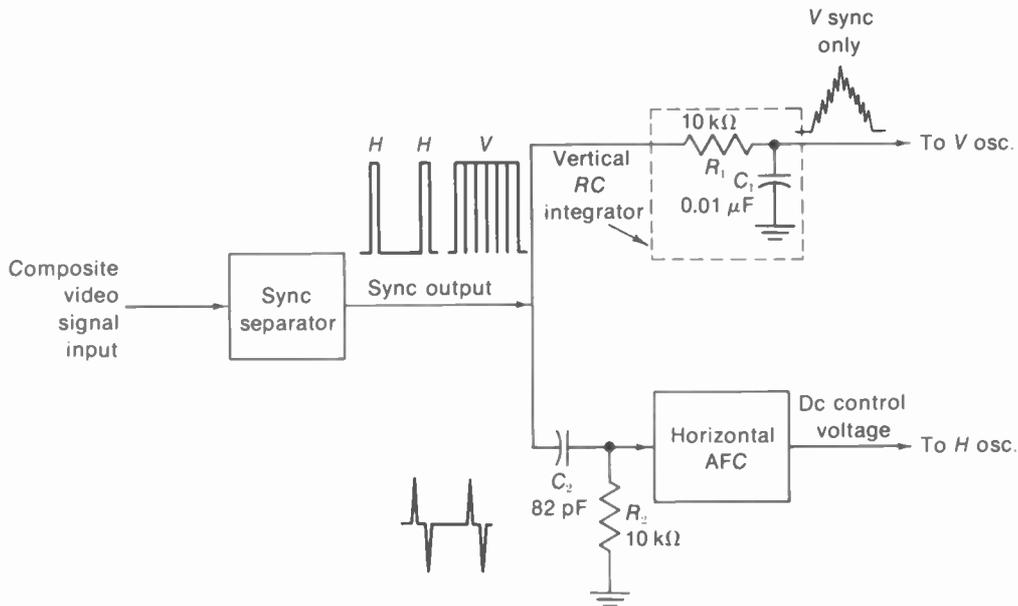

FIGURE 16-7 SEQUENCE FOR SYNC SEPARATION. CLIPPER STAGE FOR AMPLITUDE SEPARATION IS FOLLOWED BY WAVEFORM SEPARATION FOR VERTICAL AND HORIZONTAL SYNC.
Therefore, the vertical and horizontal sync can be separated from each other by  $RC$  filters. The vertical sync requires a low-pass filter, with series  $R$  and shunt  $C$ , to bypass the horizontal sync but pass the vertical synchronizing voltage. This is the function of the  $R_1C_1$  integrator\* in Fig. 16-7. The  $R_1C_1$  time constant of  $100 \mu\text{s}$  is too long for the horizontal sync to produce any appreciable voltage across  $C_1$ . In a separate path, the  $R_2C_2$  coupling circuit in Fig. 16-7 is a high-pass filter for the horizontal sync into the horizontal AFC circuit. The  $R_2C_2$  time constant
**Sequence of sync separation.** As shown in Fig. 16-7, first the sync in the composite video signal is separated by a sync clipper. The total separated sync is then coupled to two parallel paths for waveform separation. The  $R_1C_1$  integrator receives all the sync pulses, but  $C_1$  builds up charge only during the relatively wide vertical sync pulse. The equalizing pulses help in making the integrated voltage across  $C_1$  the same for even and odd fields. As a result, the vertical deflection oscillator is triggered at 60 Hz to hold the picture locked in vertically.